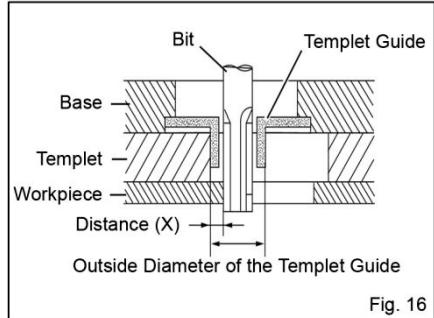

Fig. 16
Secure the templet to the workpiece. Place the tool on the templet and move the tool with the templet guide sliding along the side of the templet. (**Fig. 16**)
The workpiece will be cut a slightly different size from the templet. Allow for the distance (X) between the bit and the outside of the templet guide (**Fig. 16**). The distance (X) can be calculated by using the following equation: